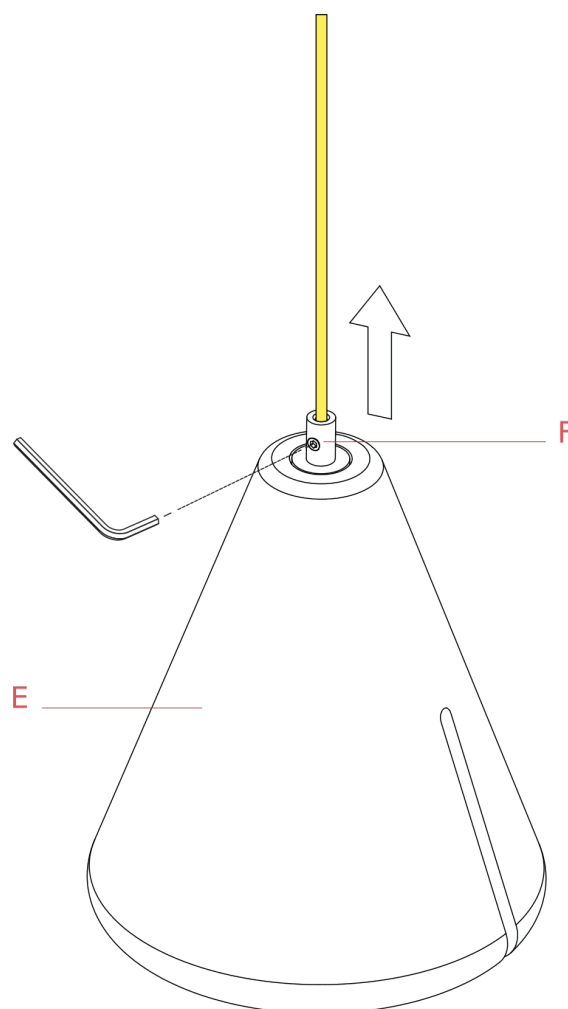

Fig.2
Hook the steel wire end (C) to the open ring (A).(Fig.2 page 2)